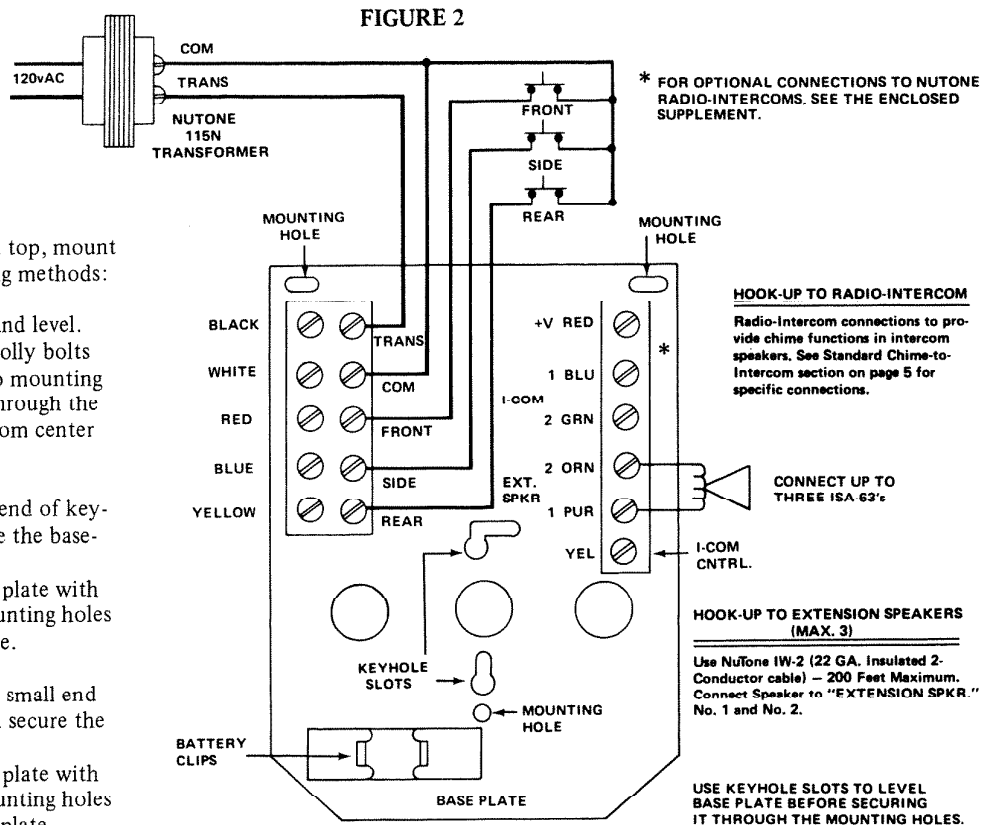

FIGURE 2
3. Connect the **TRANS**, **COMMON**, and **FRONT** (**SIDE** and **REAR** if applicable) wires to the right side screws of the five-position terminal block on the base plate. See Figure 2.
4. Connect the five colored wires (black, white, red, blue, yellow) of the supplied cable and connector assembly to their respectively labeled screw terminals on the five-position terminal block. See Figures 2 and 4.
5. Where applicable, connect the remaining wires – for Extension Speakers and Radio/Intercom use – to their respectively labeled screw terminals on the six-position terminal block on the base plate. See Figures 2 and 4.
6. Connect the six colored wires (red, blue, green, orange, purple, yellow) from the chime board to their respectively labeled **FAST ON*** terminals on the six-position terminal block on the base plate. See Figures 2 and 4.